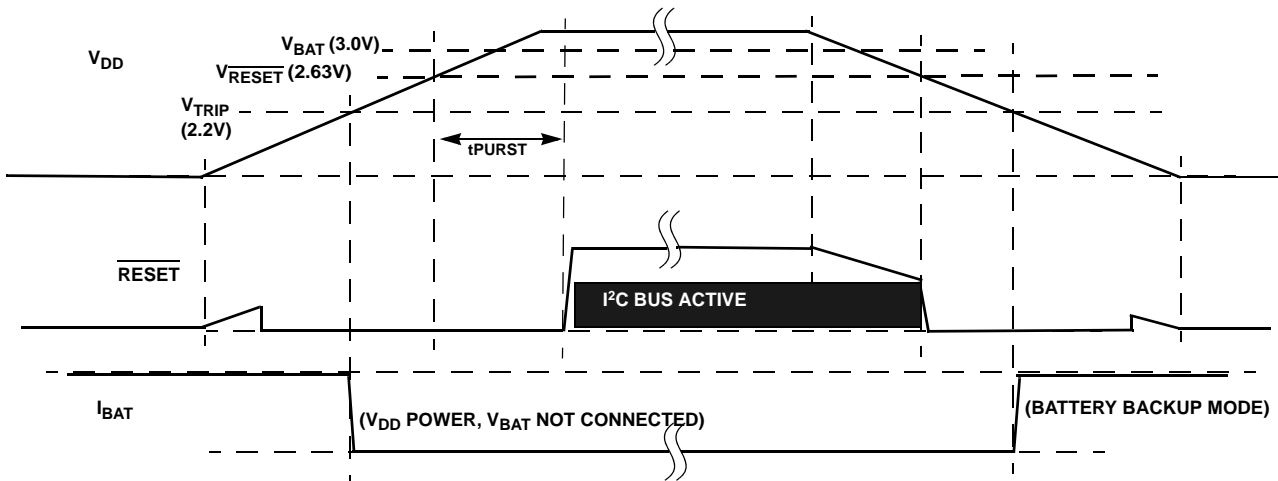

FIGURE 29. EXAMPLE RESET OPERATION IN MODE A OR C
- Mode A - In this mode, selection bits indicate a low VDD switchover combined with I2C operation in battery backup mode. In actuality the VDD will go below  $V_{\overline{RESET}}$  before switching to battery backup, which will disable I2C ANYTIME the device goes into battery backup mode. Regardless of the battery voltage, the I2C will work down to the  $V_{\overline{RESET}}$  voltage (see Figure 29).
- Mode C - In this mode, the selection bits indicate a low VDD switchover combined with no communications in battery backup. Operation is actually identical to Mode A with I2C communications down to  $V_{DD} = V_{\overline{RESET}}$ , then no communications (see Figure 29).